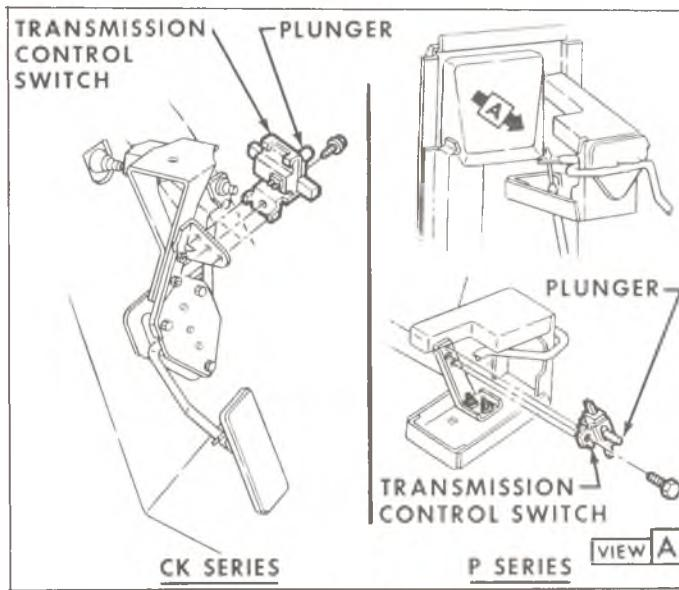

Fig. 28T—Transmission Control Switch
1. Install switch as shown in Figure 28T.